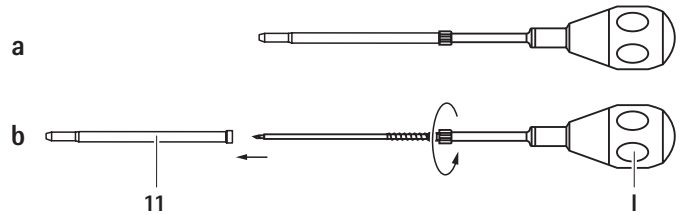

Fig. 23
- ▶ Remove outer sleeve 11 from the shaft of the self-centering cortical center punch I, see Fig. 23.